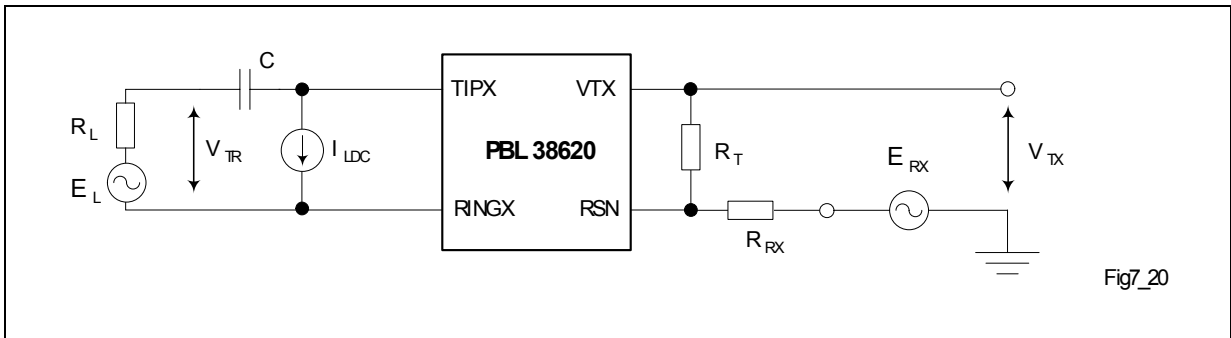

Figure 7 Frequency Response, Insertion Loss, Gain Tracking
| Four-wire to two-wire, Ref. -10 dBm, 1.0 kHz, see Figure 7 | | -0.1 | – | 0.1 | dB | -40 dBm to +0 dBm |
| Two-wire to four-wire, see Figure 7 | | – | -67 | -50 | dB | 0 dBm 0.3 kHz < f |
- 8) The two-wire idle noise is specified with the port terminated in $600 \Omega (R_L)$, and with the four-wire receive port grounded ($E_{RX} = 0$; see Figure 7). The four-wire idle noise at V_{TX} is specified with the two-wire port terminated in $600 \Omega (R_L)$. The noise specification is referenced to a 600Ω programmed two-wire impedance level at V_{TX} . The four-wire receive port is grounded ($E_{RX} = 0$).